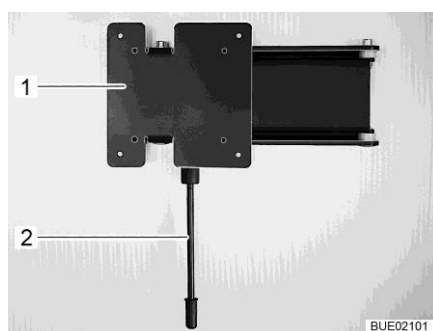

Fig. 92 Wall holder
- Pull down the release lever (Fig. 92,1) and turn the holder (Fig. 92,2) with the flat screen to the desired position.